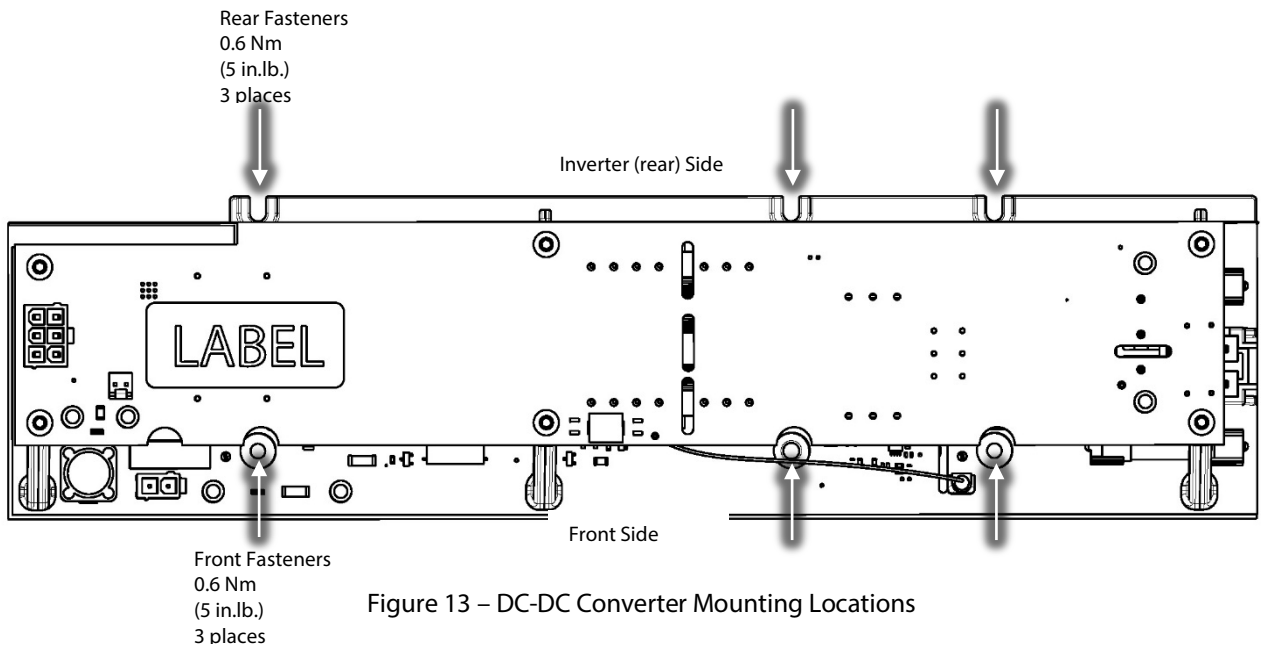

Figure 13 – DC-DC Converter Mounting Locations
4. Install the new front fasteners that secure the DC-DC Converter to the Inverter Heat Sink Plate. Torque all fasteners to 0.5 Nm (4 in.lb.). Refer to Figure 13 (DC-DC Converter Mounting Locations).